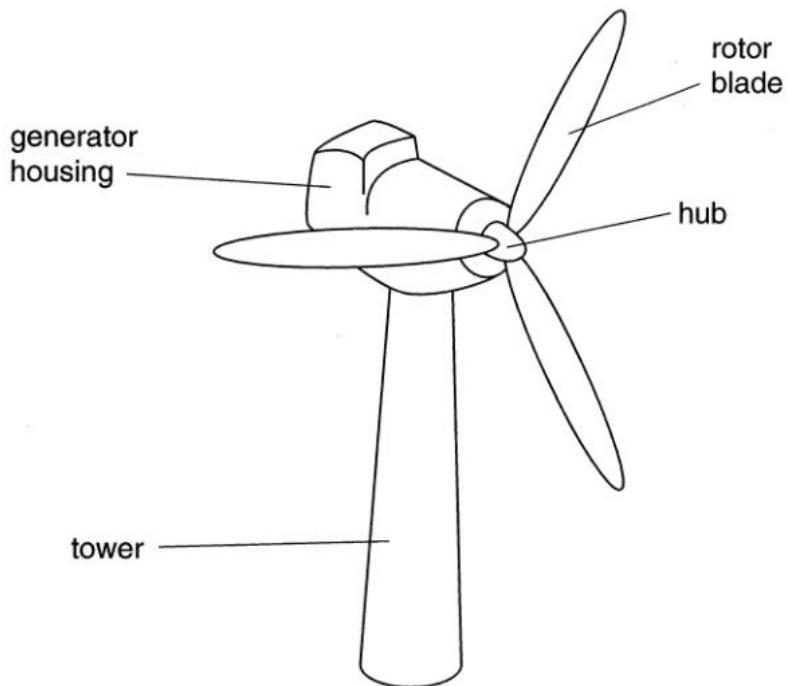

Fig. 8.1
- 8 Wind power can be used for the generation of electric power. Fig. 8.1 illustrate one particular type of wind turbine.